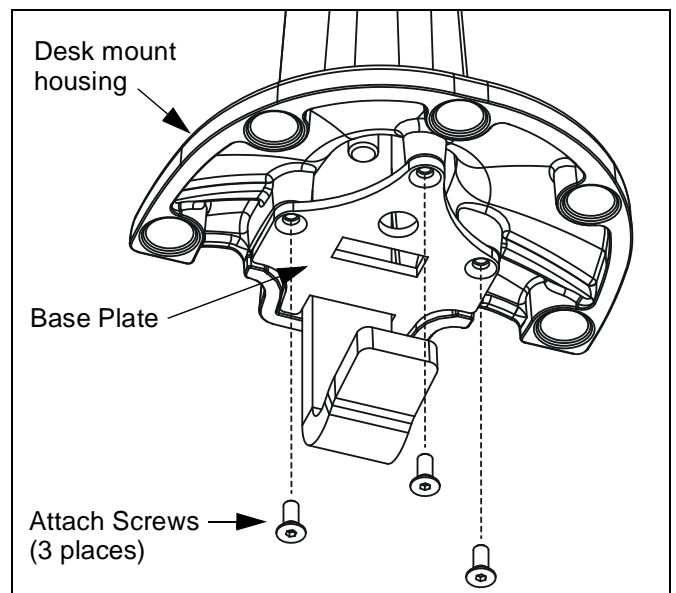

Figure 3: Remove Base Plate
3. Using 2.5mm hex key, remove base plate and attach screws from desk mount housing (See Figure 3).